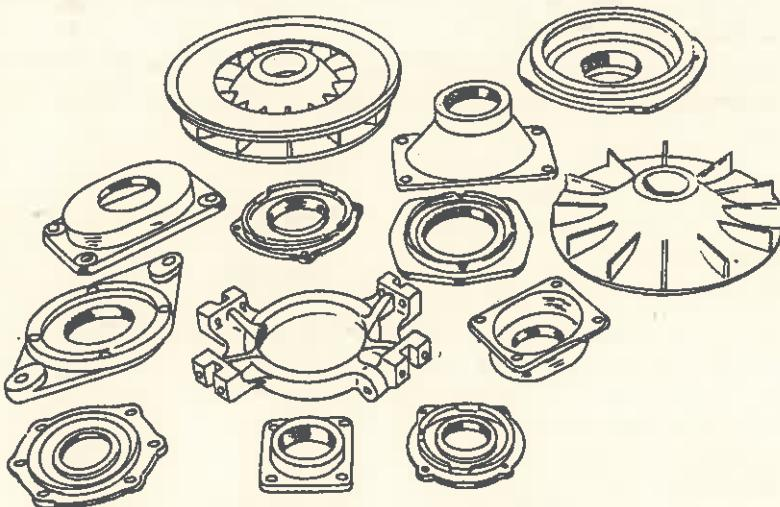

Fig. 6.13. Production Family
- Group technology involves the machining of parts in families, (Fig. 6.13).
From this information the profile and parameters of the component family (Fig. 6.13) are constructed against which the acceptance or non-acceptance of new components into the *family* can be used.
- N.B.** In Fig. 6.13, most components have different *shapes* and *functions*; but all of them require *internal boring*, *face milling*, *hole drilling* and so on. Therefore, it can be concluded that the components are *similar*. The set of similar components can be called a *production family*. From this, process planning work can be facilitated.